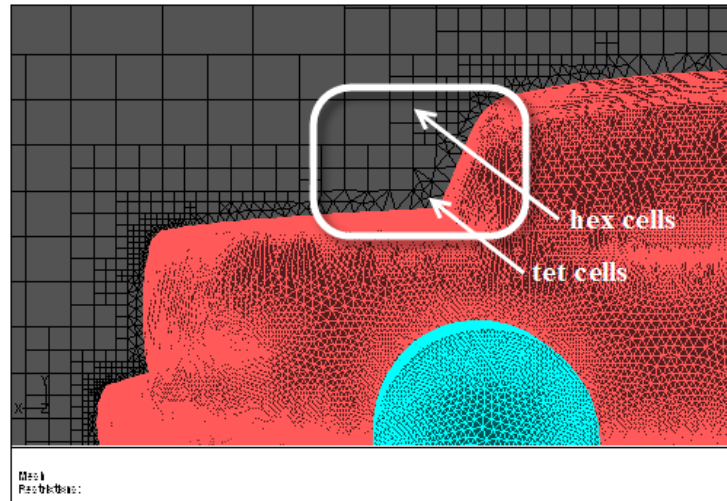

Figure 6.3: Hexcore Mesh Upto Domain Boundaries—Zoomed View
- (g) Zoom in to the region shown in Figure 6.3.
In Figure 6.3, you can see that the mesh on the boundaries is made up of quad cells, except near the sedan.